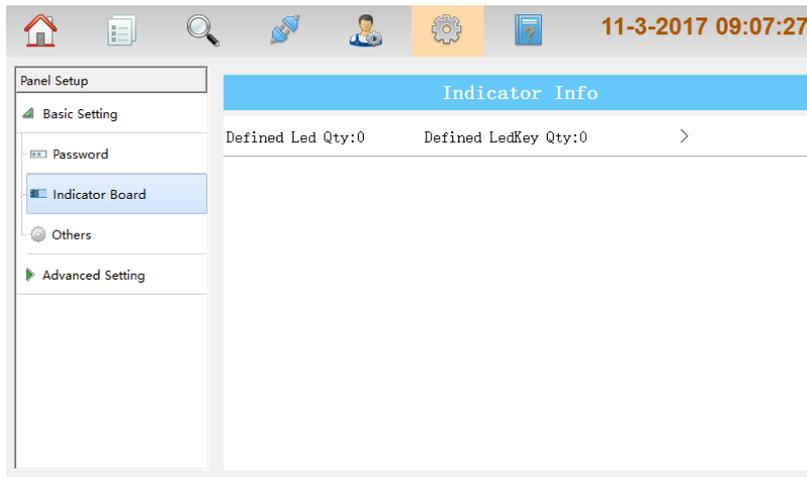

Fig.5-3
- Indicator Board: Clicking **Indicator Board**, Indicator Info can be displayed on the right of the screen, including Defined Led Qty. and Defined LedKey Qty. Refer to Fig.5-3 for details.